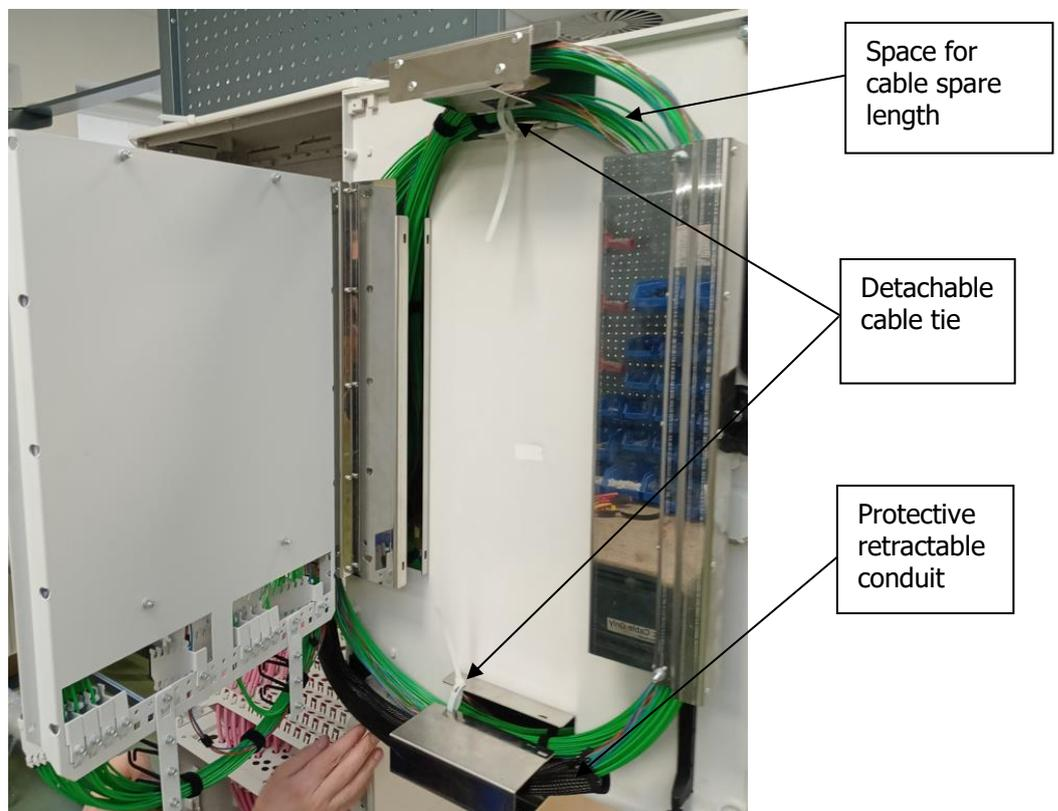
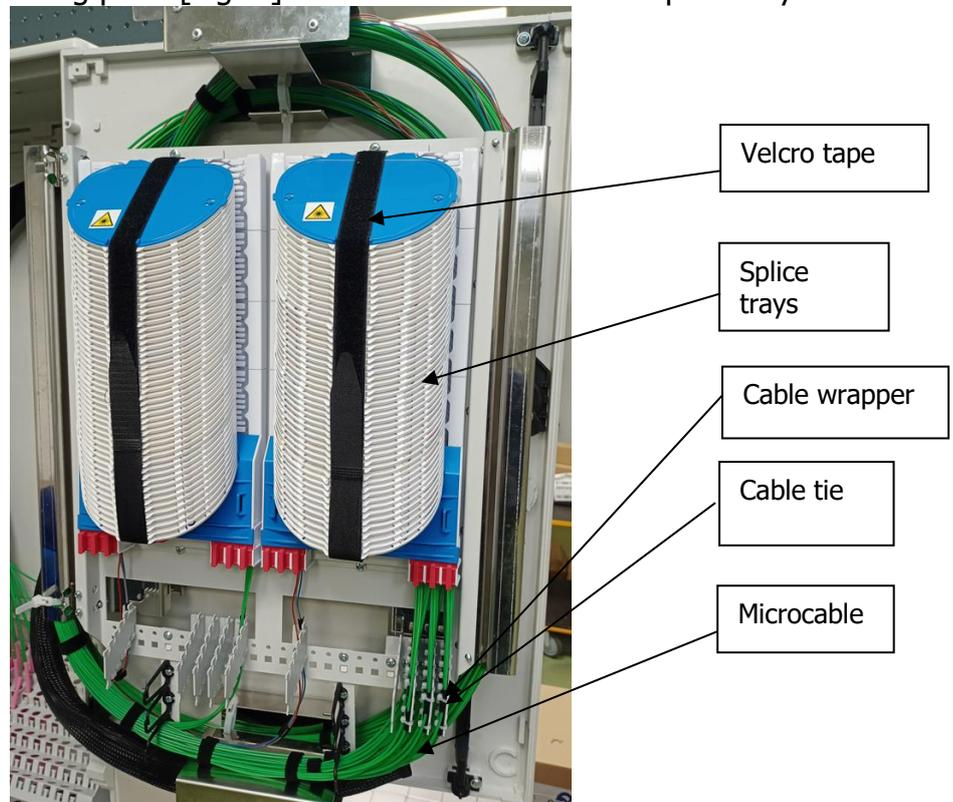

Fig.7. Disassembled inner box.
Fig.8. Routing cables to splice trays.
12. Route the customer drop and feeder microcable towards the protective retractable conduit and arrange approximately 5 m of spare cable length on the cabinet door [Fig.7.] (to do this, unscrew the knurled nut [Fig.2.] and open the inner box). Insert the cables into the inner box and secure with cable ties to the front fixing plate and to the splice trays mounting plate [Fig.8.]. Guide the fibres to the splice trays.
14. When closing the door, make sure that the protective retractable conduit is not squeezed by the inner box (it should be placed under the inner box [Fig.7.]).